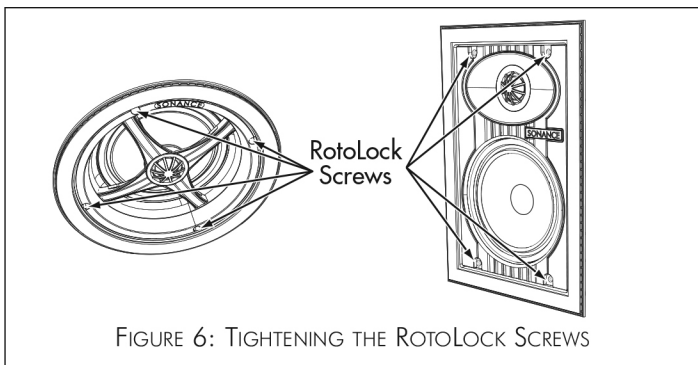

FIGURE 6: TIGHTENING THE ROTOLOCK SCREWS
- Tighten the four screws on the front of the speaker baffle. The RotoLock clamps will automatically rotate into position and begin clamping the speaker (Figure 6, page 3).